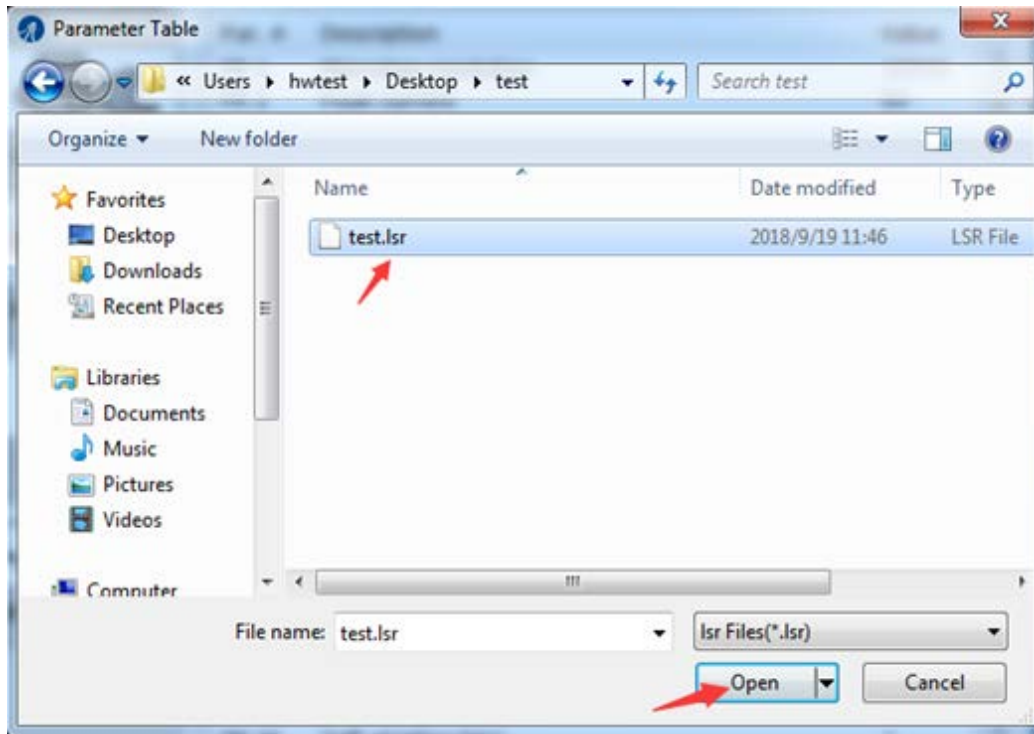

Figure 20: open an .Isr configuration file window
- Click **Project->Open** menu item. The File Open window will be displayed (Figure 20).